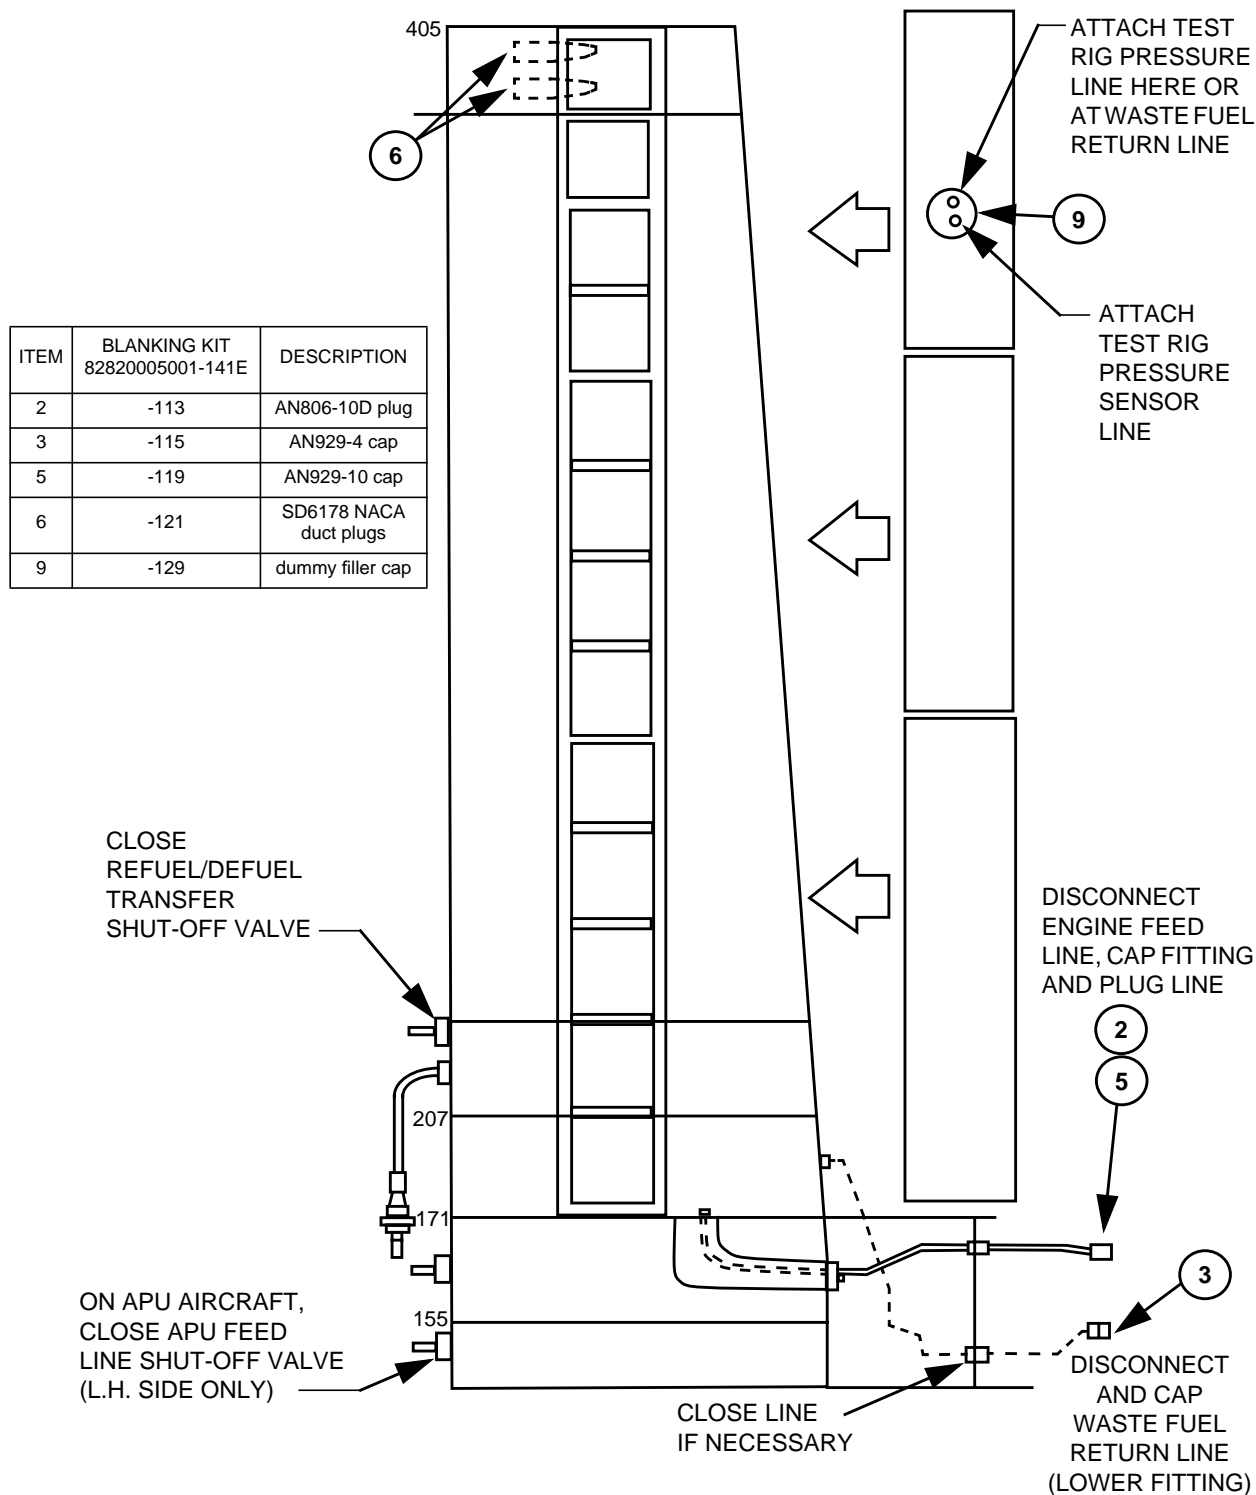
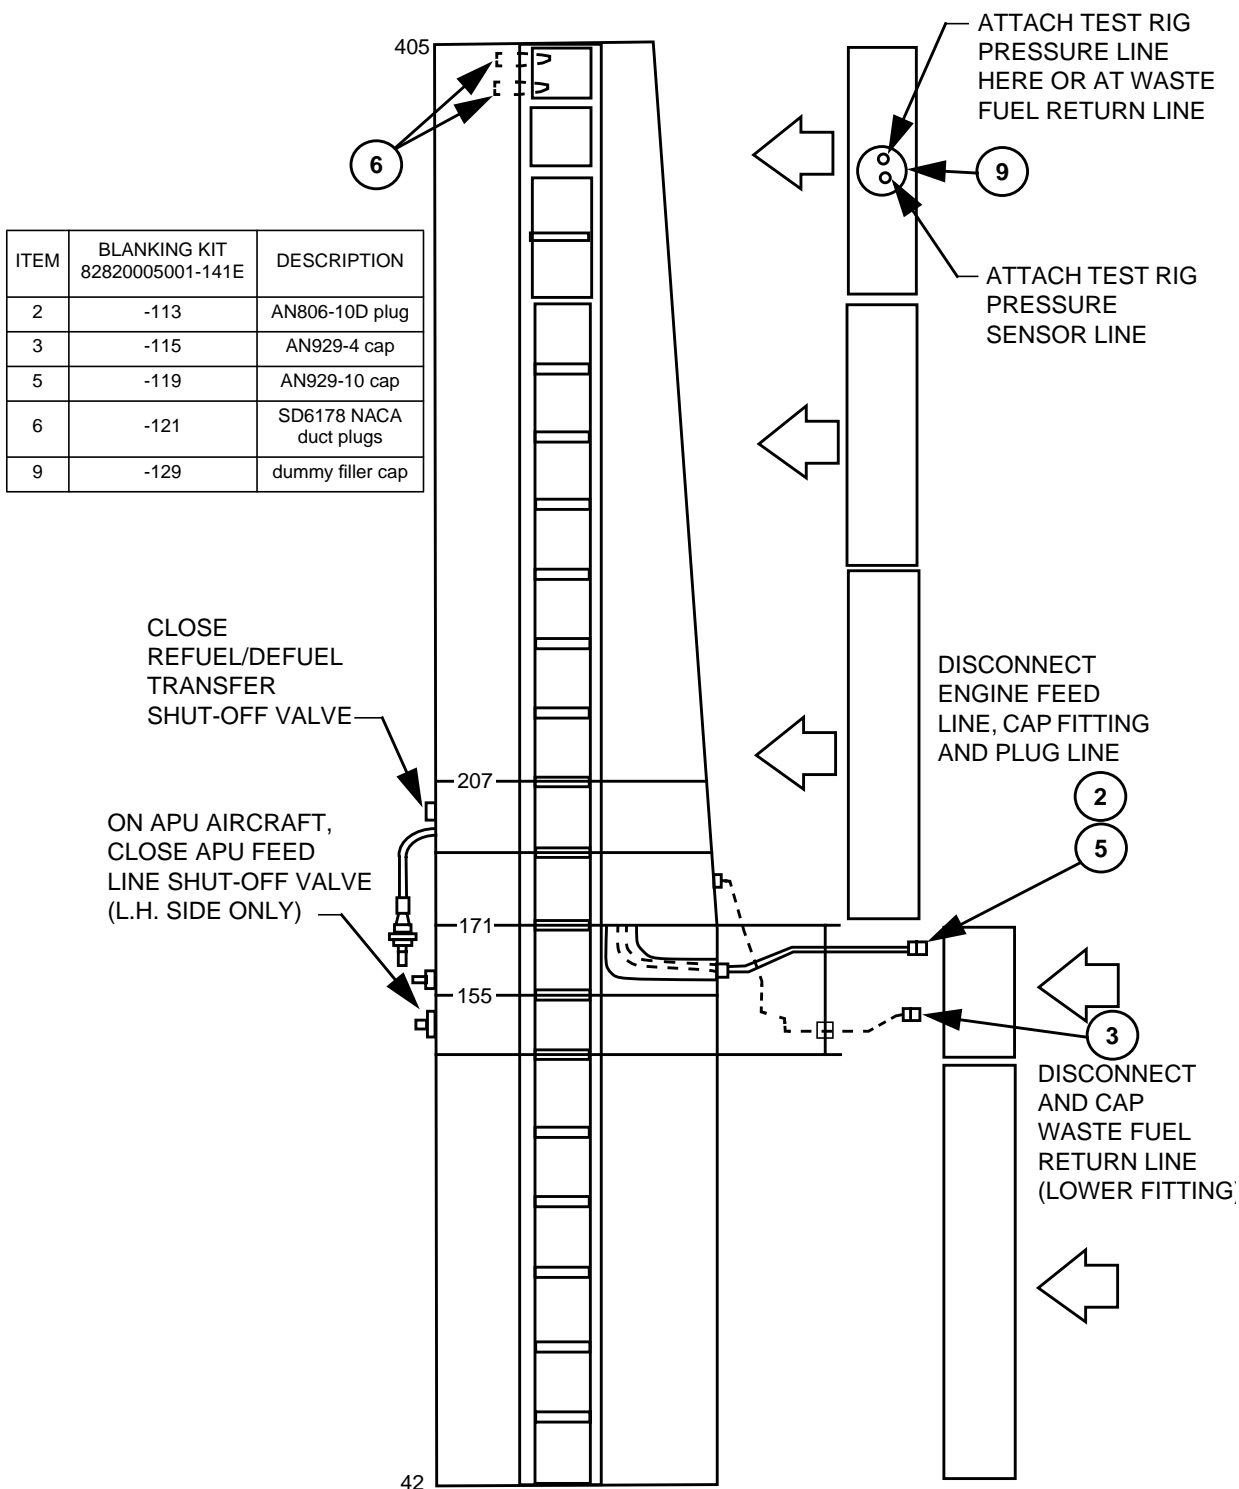

Figure 6 - Final Pressure Test of Standard Aircraft
Figure 7 - Final Pressure Test of Extended Range Aircraft
5.4.1 After installation of the access covers, prepare the main fuel tank for the final pressure test as follows (see Figure 6 and Figure 7):
5.4.3 Perform the final pressure test as follows (see Figure 6 and Figure 7):